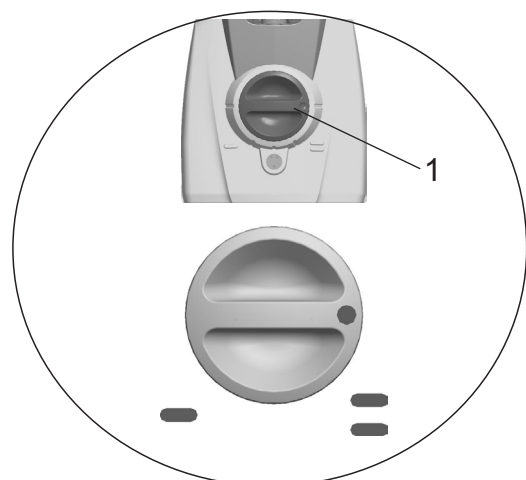

Fig. 4
– Depress the knob (Fig. 4/1) and turn it to any of the five positions.